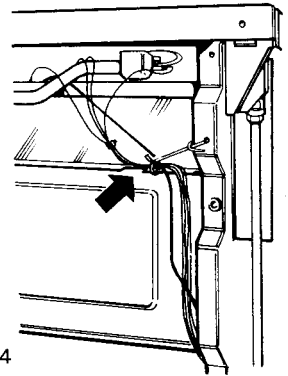

Fig. 14
2. Remove H.T. leads from twist tie (see Fig. 14).